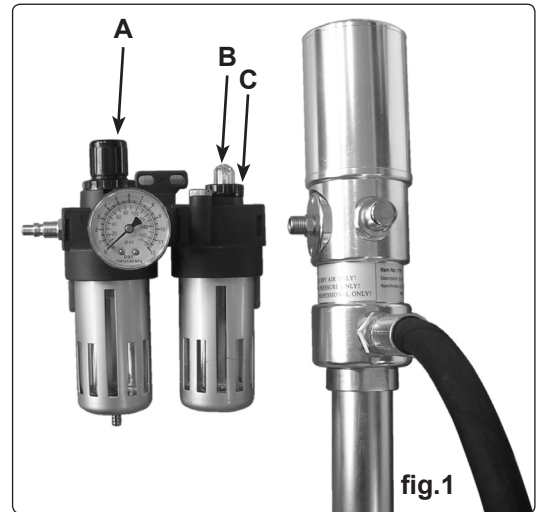

fig.1
3.2.1 Apply a small amount of liquid thread sealant onto the threads of the air inlet of the pump and attach the air regulator/lubricator (fig.1).